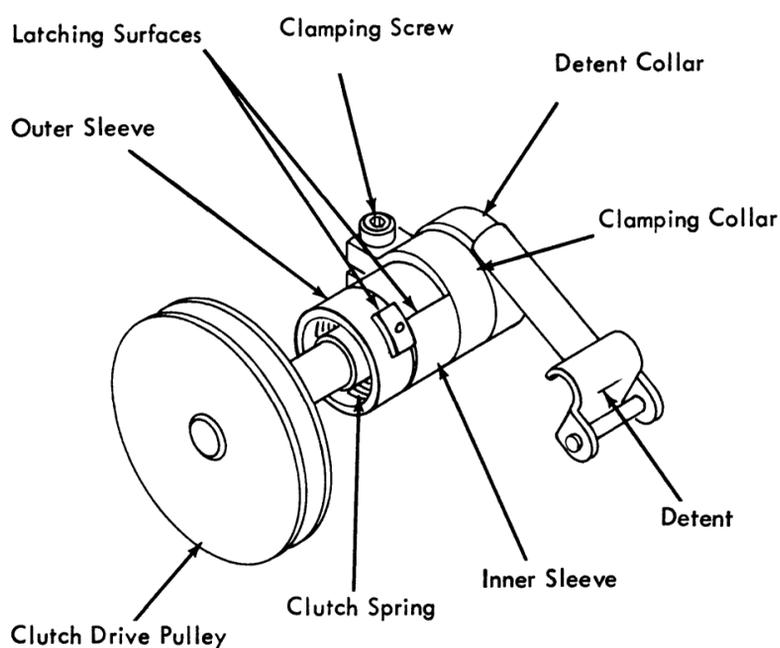

Figure 4-24. Punch Clutch Components
**Sleeve Latching Surface Lead Distance:** This adjustment establishes the correct relationship between the clutch spring and the outer and inner sleeves (Figures 4-24 and 4-25).